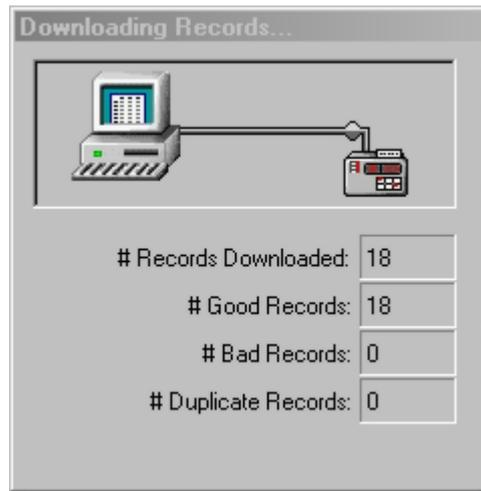

Figure 19 Downloading Records screen
3. Click the **DOWNLOAD RECORDS** button. A **Downloading Records...** screen opens (Figure 19), that shows: